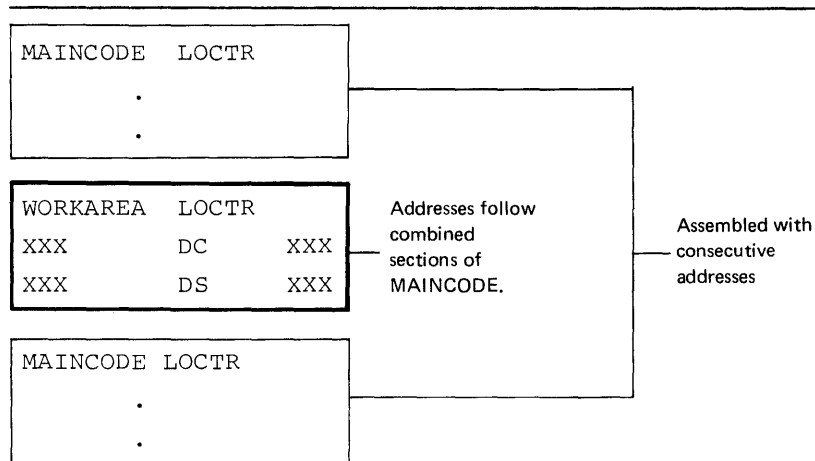

Figure 3. LOCTR Instruction Application
The assembler assigns consecutive addresses to all segments of a location counter in a control section before it continues address assignment with the first segment of the next location counter. By using the LOCTR instruction, you can cause your program object-code structure to differ from the logical order appearing in the listing. You can code sections of a program as independent logical and sequential units. For example, you can code work areas and constants within the section of code that requires them, without branching around them. Figure 3 on page 21 illustrates this procedure.
1. If there are any nonzero bits present in the low-order 6 bits of the MHELP field (see Figure 3 on page 21), the corresponding options are turned on.